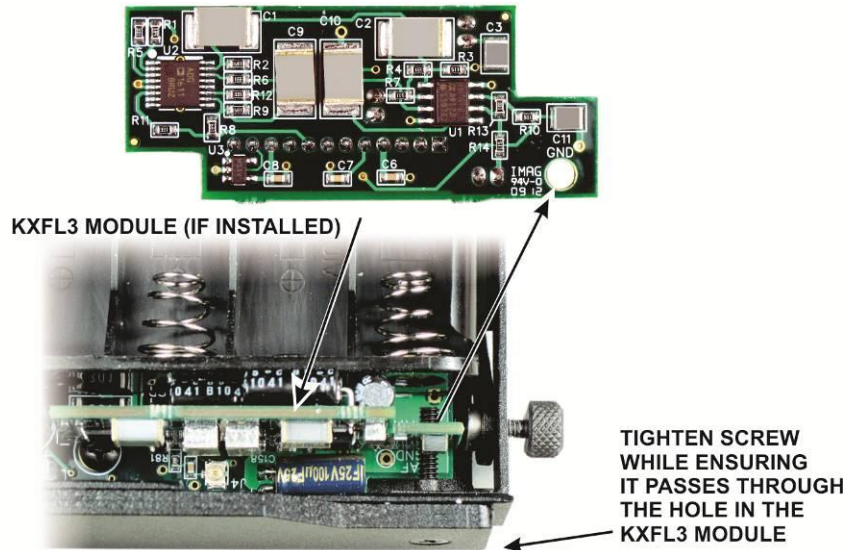

Figure 9. Tightening the Remaining Heat Sink Mounting Screw.
□ Place the KX3 on its feet and open the top cover again. Tighten the remaining mounting screw you started in the previous step. If the KXFL3 module is installed be sure the screw passes through the opening in the KXFL3 board as shown in Figure 9. If it strikes the module pc board, reseal the module in the connector on the KX3 main board so the hole lines up with the screw. The purpose of this screw is only to ensure the module is not jarred loose by rough handling of the KX3.